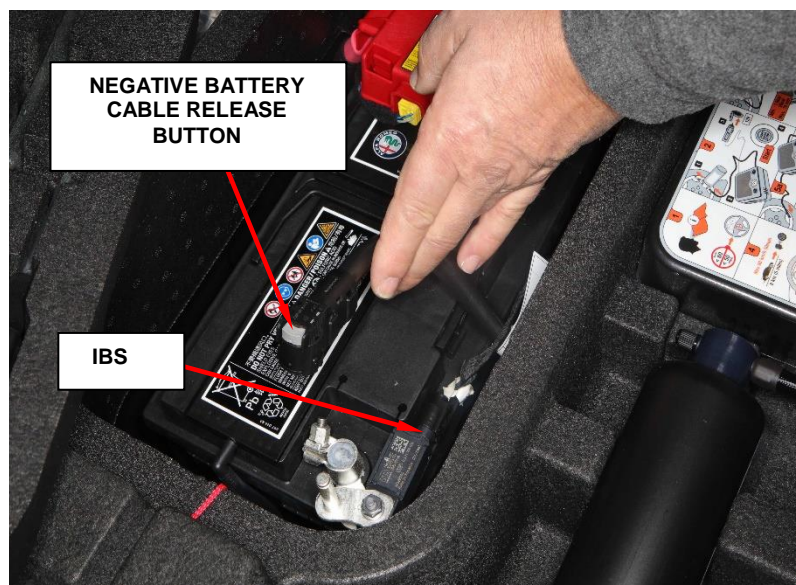

Figure 4 – Battery Negative Cable
7. Lift up the compartment load floor and press the release button and disconnect the negative battery cable from the post. If equipped with an Intelligent Battery Sensor (IBS), disconnect the IBS connector (Figure 4).
10. Lift up the compartment load floor and press the release button and connect the negative battery cable to the post. If equipped with an Intelligent Battery Sensor (IBS), connect the IBS connector (Figure 4).